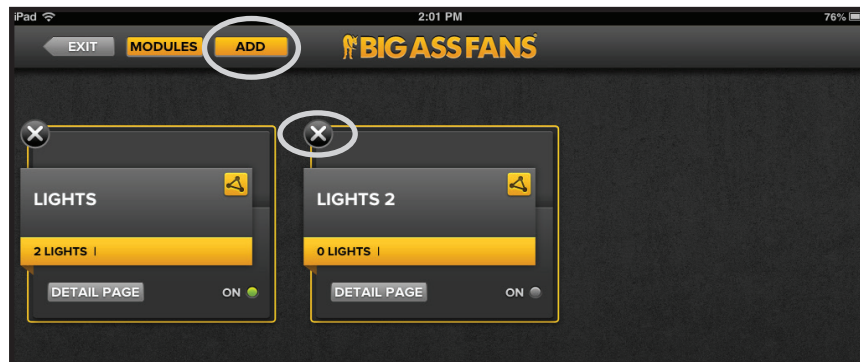

Figure 11—Adding and deleting light groups
4. At the top of the screen, touch **Add** (Figure 11).
4. Touch the **X** icon(s) next to the light group(s) you want to delete (Figure 11).